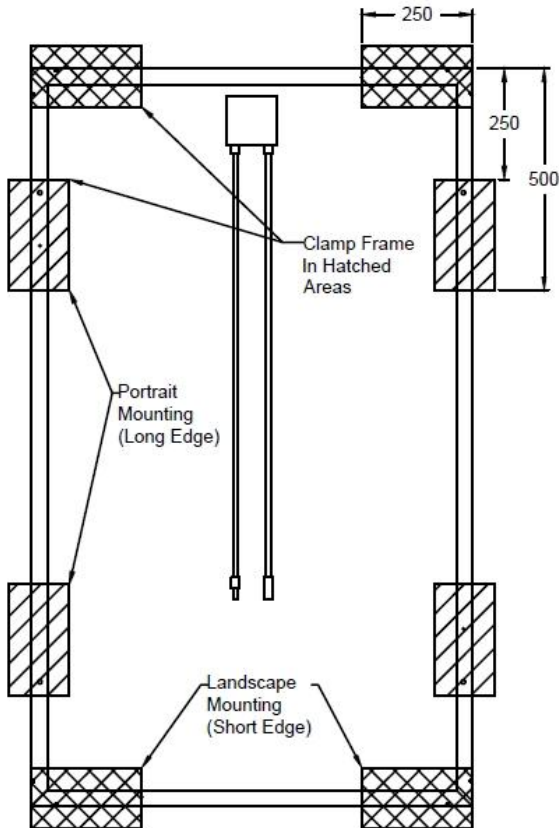

Figure 3: Mounting Configurations
- a. Bolts or clamps and support rails attach to the long edge of the module as per the specified methods and areas in Figure 3.
- a. Bolts or clamps and support rails attach to the short edge of the module as per the specified methods and areas in Figure 3.